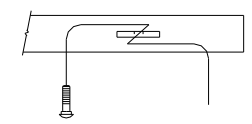

Figure 3
2. Feed the carriage bolt and large block thru slots on bottom of frame rails using the pull wire, as shown Figure 3